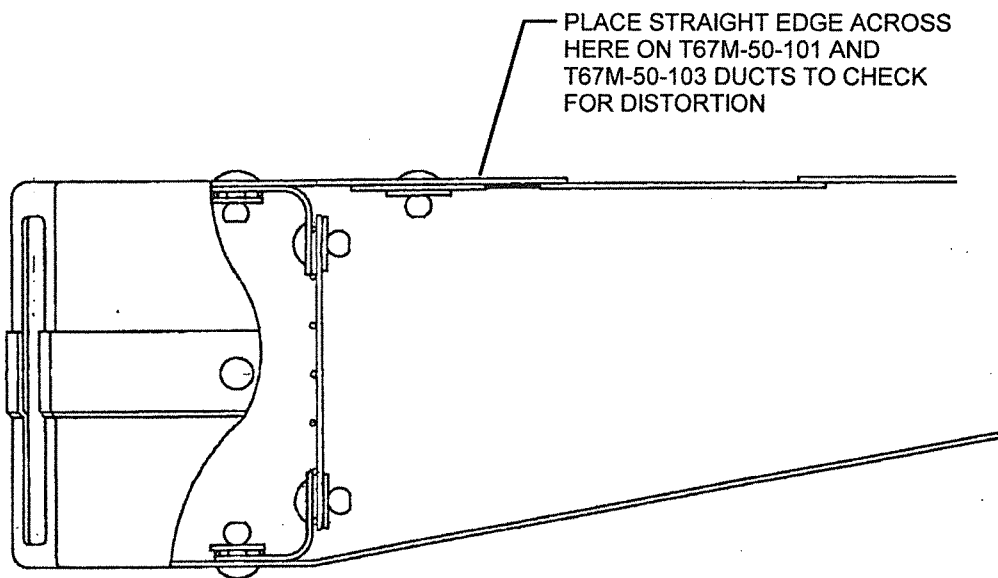

FIG. 2 AIR INTAKE DUCT T67M-50-103
6. Place straight edge across top of air duct adjacent to the alternate air door retaining rivets and check for distortion, ref. Figure 2. Any distortion of this face will effect the alternate air door operation.
- i) If intake duct assy is T67M-50-103 (Ref Figure. 2) no further action is required. Annotate logbook "SB169 complied with".